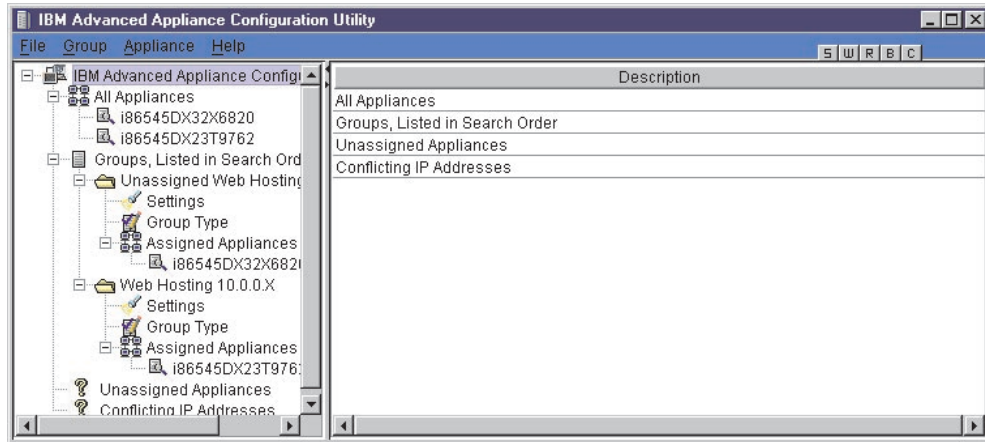

Figure 10. IBM advanced appliance configuration utility
3. From the remote workstation you are using to manage the network, go to Start, then open the IBM Advanced Appliance Configuration Utility (see Figure 10 on page 30).
The Advanced Appliance Configuration Utility window lists the following items (see Figure 10):